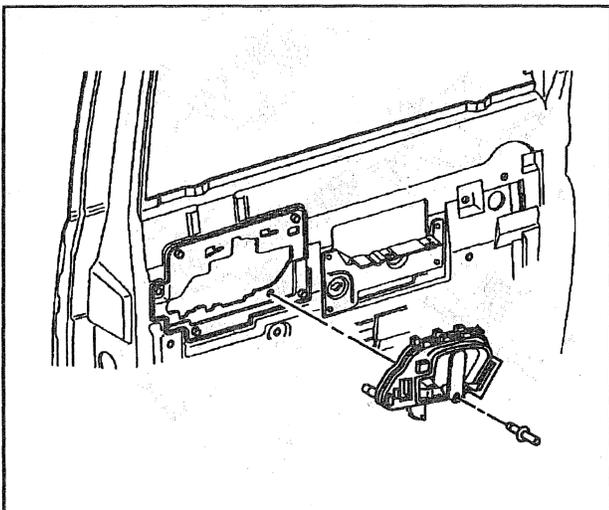

Figure 52—Rear Door Inner Handle Assembly
### Remove or Disconnect (Figures 52 and 53)
3. Inside door handle assembly (figure 52).
### Install or Connect (Figures 52 and 53)